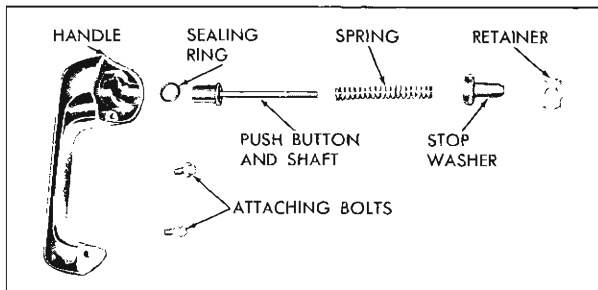

Fig. 12-12 Outside Handle
3. With a flat-bladed screwdriver and hammer, rotate sheet metal retainer  $\frac{1}{4}$  turn. Remove retainer, stop washer, spring, sealing ring and push button and shaft (Fig. 12-12).